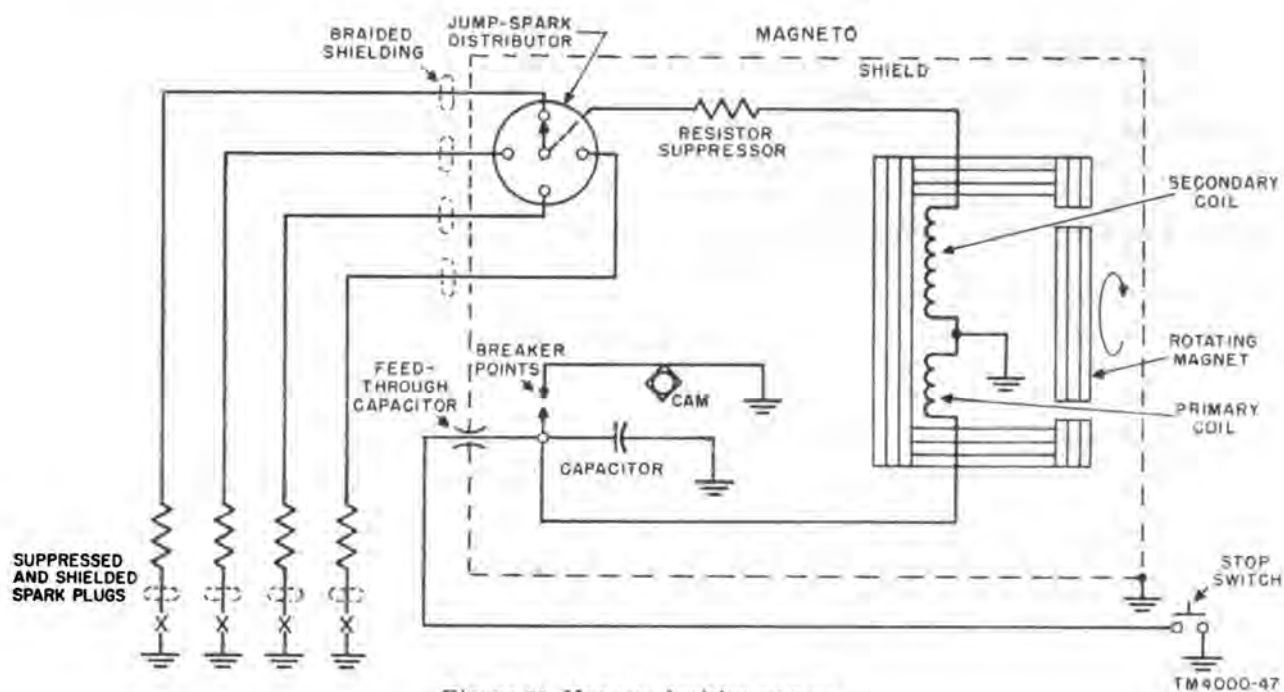

Figure 62. Magneto ignition system.
- (2) *Magneto system.* If the vehicle is equipped with a magneto system, run the engine at a fast idle speed and switch off the magneto while listening for any change in the noise level in the receiver. If turning off the magneto reduces the noise, the interference is coming from the components of the ignition system in which the magneto is operating. A typical magneto system is shown in figure 62.